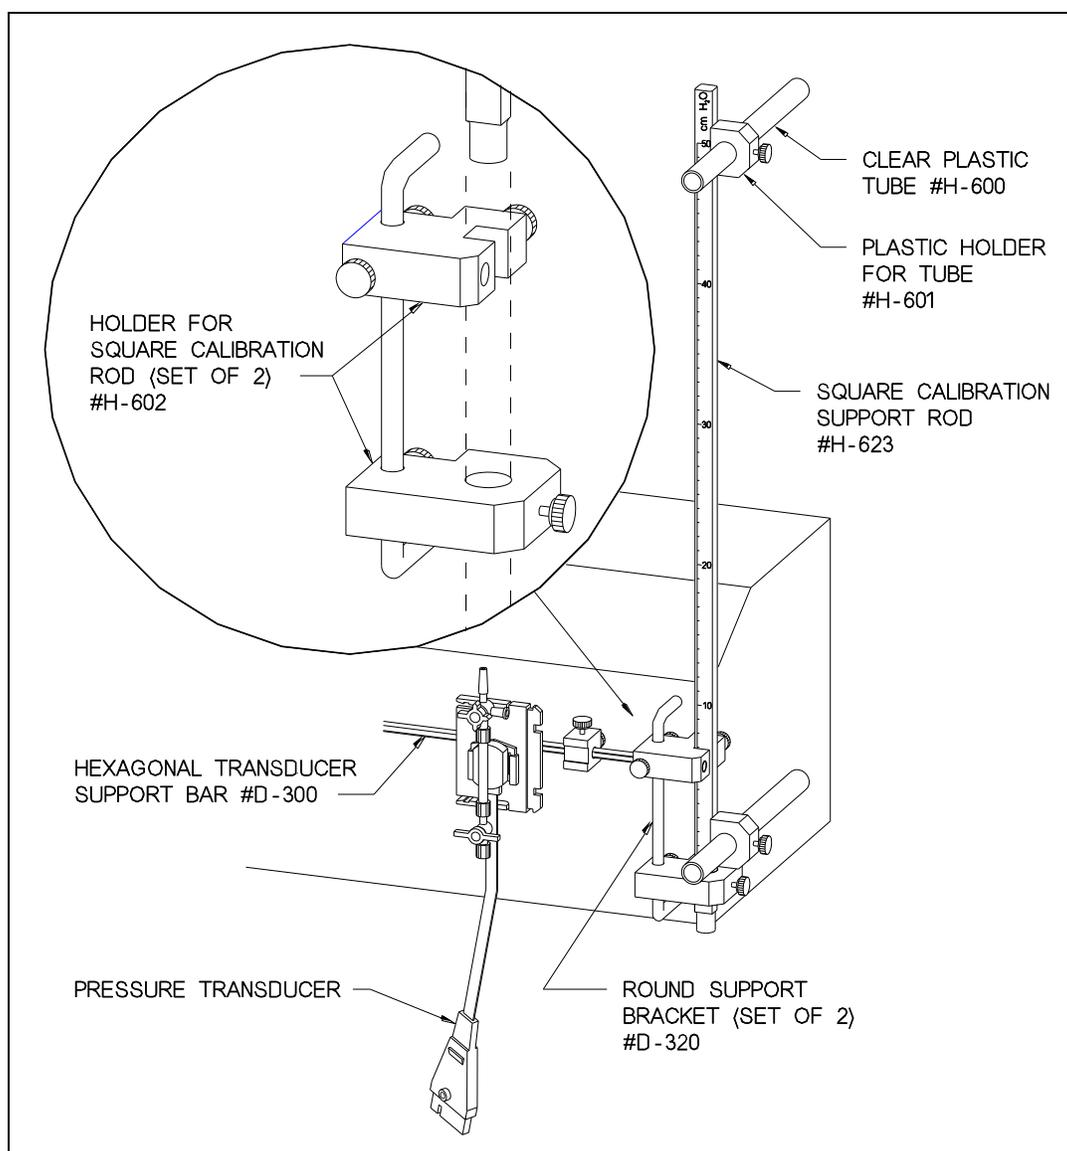

Figure 11. Hydrostatic Calibration System (0–50/68 cm H₂O)
- On the square calibration rod locate the two white plastic tube-holders. Slide a clear plastic 11-inch tube into the hole of each tube-holder as shown in Figure 11, below. Tighten the knurled screw to secure the clear plastic tube.
- Slide the square calibration rod into the two calibration rod holders on the right-hand round support bracket. The clear plastic tubes should be oriented perpendicular to the pump as shown in Figure 11. The lower clear plastic tube should be at the same level as the transducers for 0 cmH₂O or low calibration. The upper plastic tube is for 50 or 68 cmH₂O for high calibration (68 cmH₂O = 50 mm Hg).